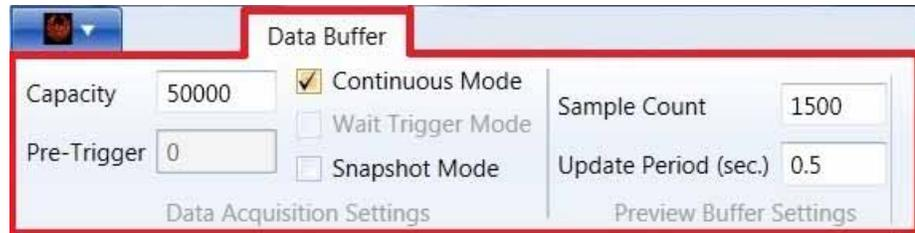

Figure 6-4. Data Buffer Tab
3. [Data Buffer tab] For a basic power measurement, select or change the following settings in the Data Buffer tab, as shown in Figure 6-4: